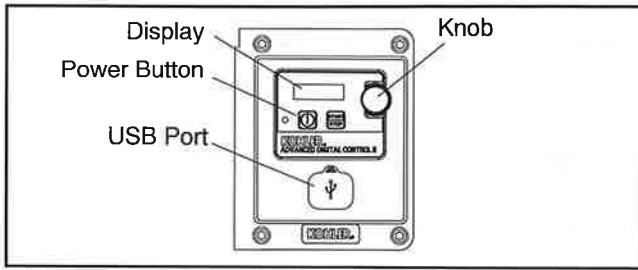

Figure 3 ADC II Controller
2. With the controller powered down (display off), insert the USB flash drive with firmware version ADC2U170.BIN into the USB port on the controller. See Figure 3.